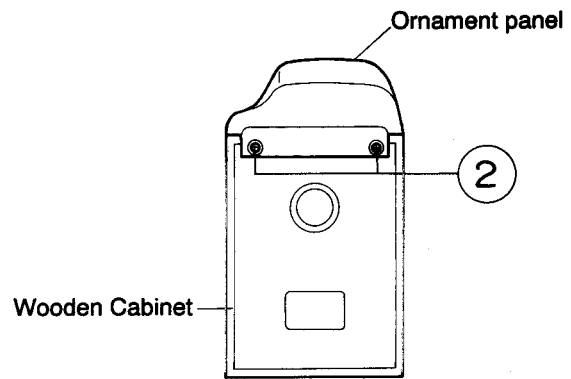

Fig. 5-62
4. Remove the two screws ② which retain the ornament panel from the rear. (See Fig. 5-62.)